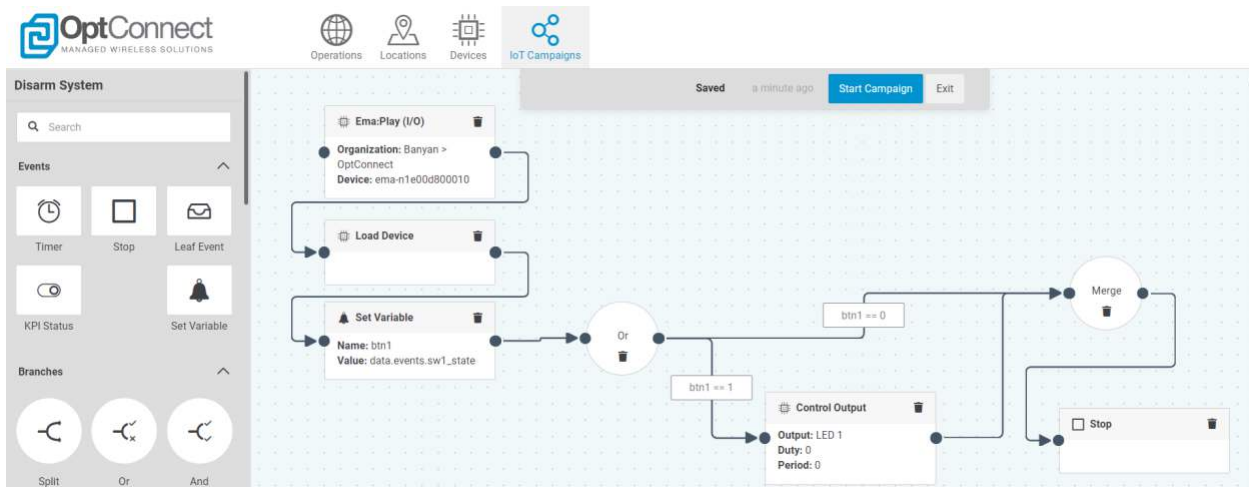

Figure 49
- Repeat steps 2 – 4 above to create another IoT Campaign named **Disarm System** with description **Disable Alarm**. Use *Figure 49* as reference for the logic. Start the Campaign and return to the “IoT Campaigns” page.